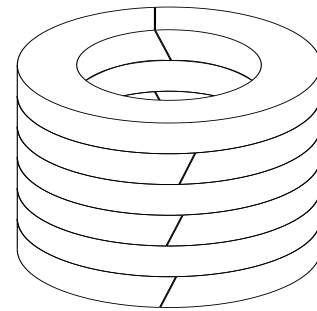

Figure 6 Packing cut position
3. Packing cut position should follow Figure 6. Use the same above method to install rest of the packing, one ring at a time, make sure the packing ring is totally in place before starting next one. During the installation process, keep all packing rings clean without touching any foreign material.